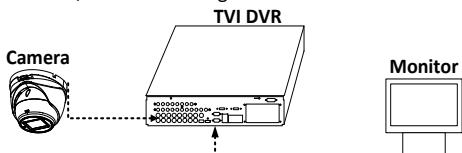

Figure 3-1 Connection
- Connect the camera with the TVI DVR, and the monitor, shown as the figure 3-1.